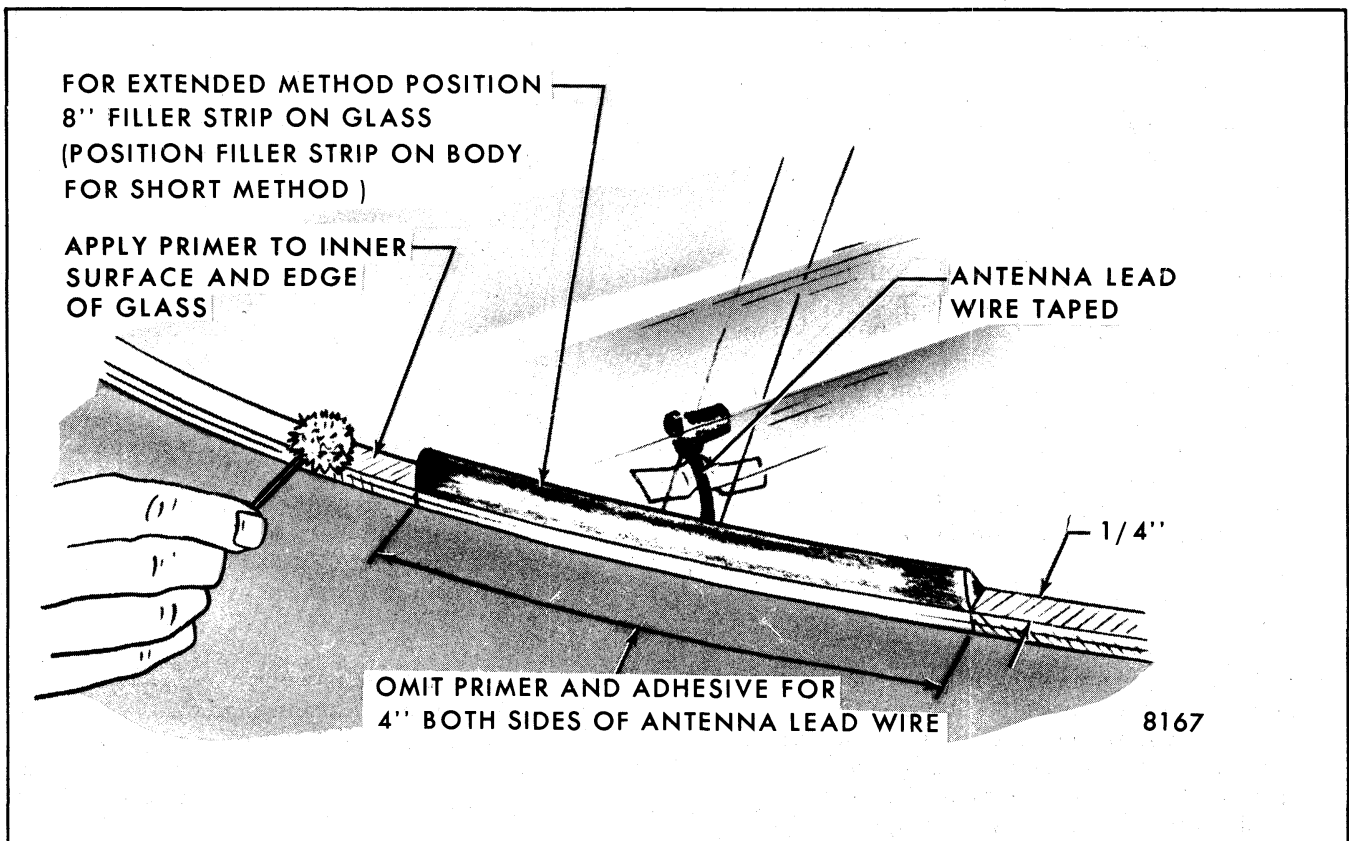

Fig. 11-11-Embedded Windshield Antenna Installation
- a. On windshields equipped with embedded antenna, apply primer around periphery of glass as shown in Figure 11-11. Do not apply primer between marks established in step 3
- b. On windshields without embedded antenna and other stationary glass, apply primer around entire perimeter of glass edge and 1/4" inboard on inner surface as in partial application of primer as shown in Figure 11-11. Allow primer to dry 5 minutes.
- a. On windshield equipped with embedded antenna, apply primer around periphery of glass as shown in Figure 11-11. Do not apply primer at location of filler strip applied in step 9. Allow primer to dry 5 minutes.
- b. On windshields without embedded antenna and other stationary glass, apply primer to entire perimeter of glass edge and $1/4$ " inboard on inner surface as shown in Figure 11-11. Allow primer to dry for 5 minutes.